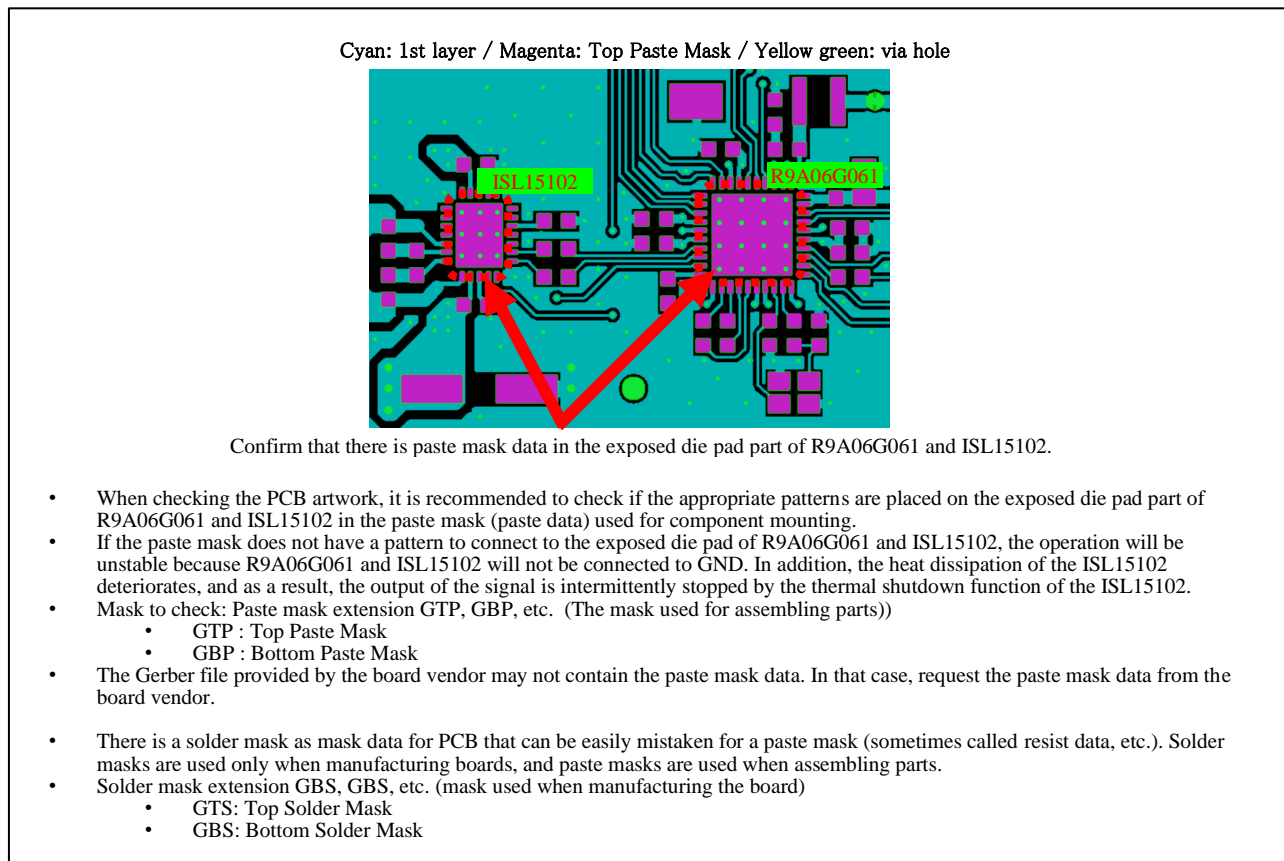

Figure 2-16 Example of checking the paste mask (paste data) used for component mounting
- When checking PCB artwork, in the paste mask (paste data) used for component mounting, it is recommended to check if the appropriate pattern is placed on the exposed die pad part of R9A06G061 and ISL15102. (See Figure 2-16 for details.)